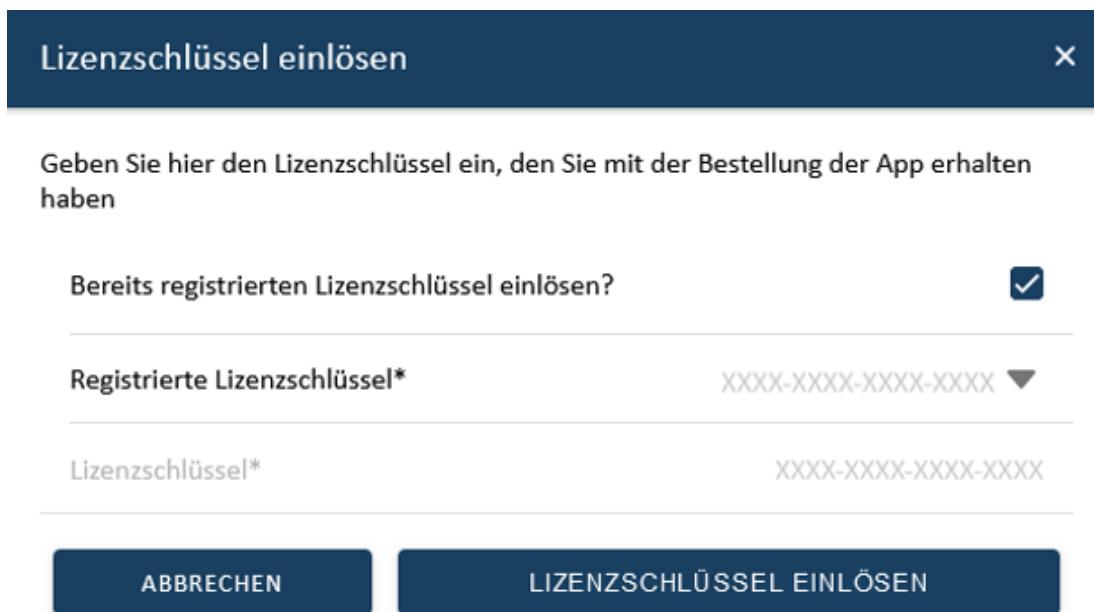

Figure 19. App installation — Variant 2: Step 5
- Figure 19. App installation — Variant 2: Step 5